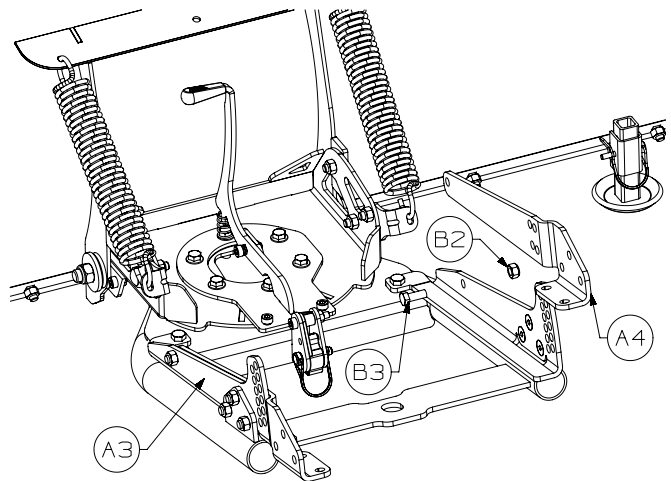

Figure 3
4. Install the flange mounting brackets (A3, A4) using M10 fasteners (B3, B2). Do not tighten at this time. See Figure 3.